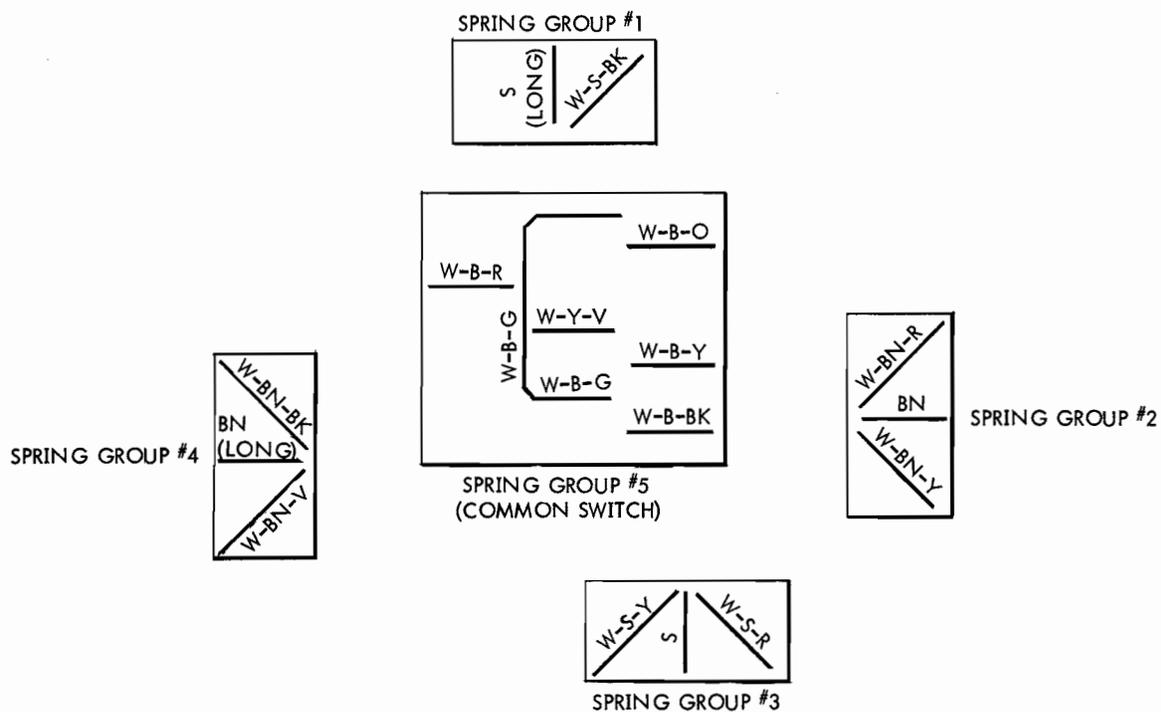

Figure 3. Dial circuit and wiring diagram
- (1) Place Circuit Board in position on the Mounting Plate and secure with the two nuts (33) and screws (34).
- (2) Refer to figure 3 and solder leads to the Spring Contacts on the Mounting Plate.